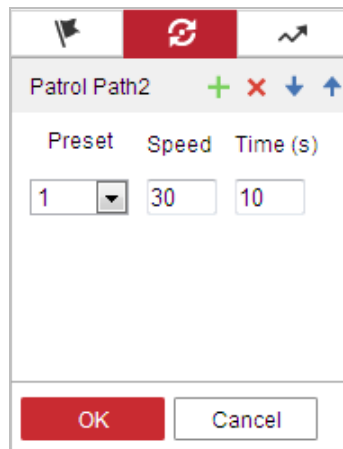

Figure 4-9 Adding Presets
3. Click  to enter the adding interface of preset, as shown in Figure 4-9.